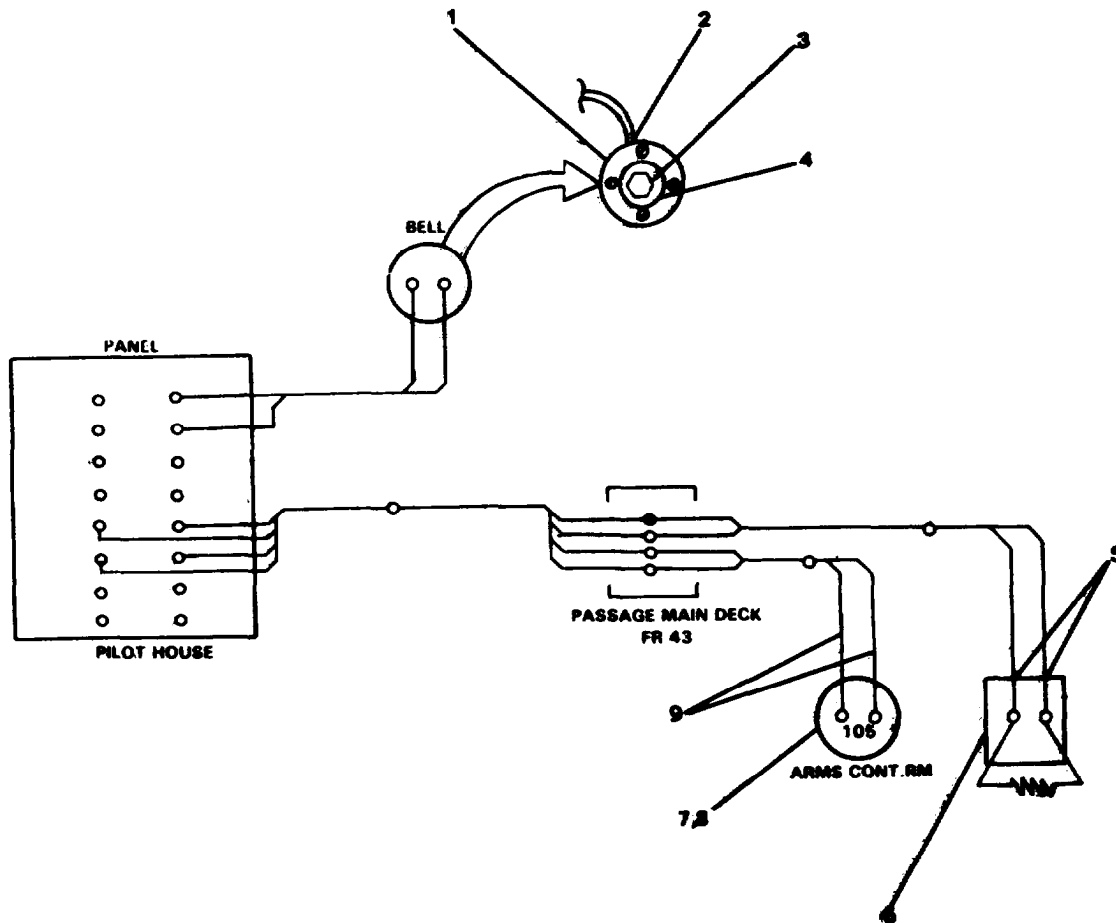

FIGURE 2-137. Shipboard Panel Alarm.
- c. Install lever switches (7) on surface mounting boxes (5); secure with the mounting hardware.
- e. Install lever switches (3) and replace junction box covers (4); secure with mounting hardware.
- g. Install thermostatic switches (1) on junction boxes (2); secure with mounting hardware.
**2-153. Repair Shipboard Alarm Panel. (FIGURE 2-137)**